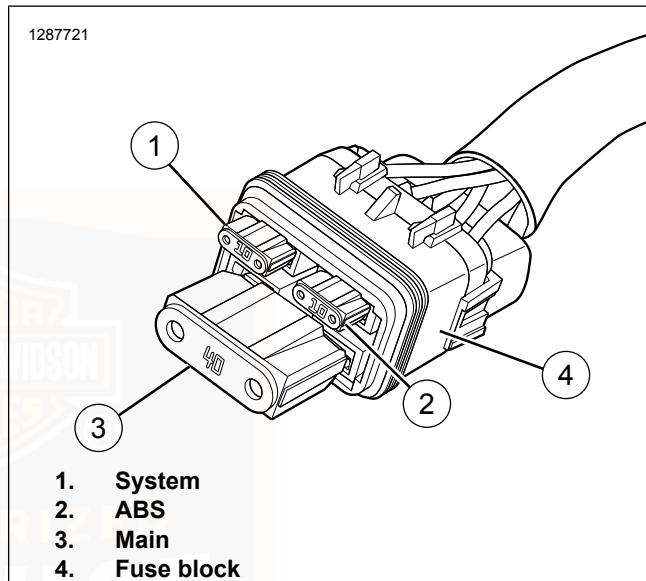

Figure 59. Fuse Block
5. See Figure 59. Remove the suspect fuse and inspect the element. Replace the fuse if the element is burned or separated.